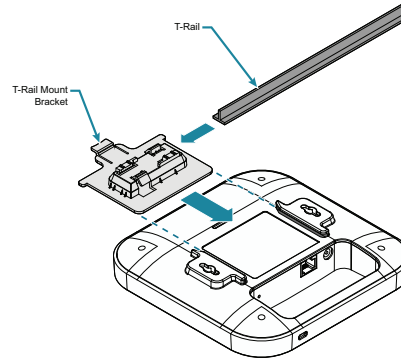

Figure 3. BSAP Ceiling Mount Brackets
Position the BSAP 6040 for maximum throughput and range between other APs and wireless client devices. The BSAP 6040 ships with plastic flush and recessed ceiling mounting brackets (T-rail kits) to mount the BSAP on the ceiling tile separators of standard and recessed dropped ceilings. Complete these instructions and refer to Figure 3 to mount the BSAP 6040 to a dropped ceiling:
1. Attach the T-Rail mounting bracket to the back of the BSAP by sliding the bracket into the recessed area behind the keyed slots until locked in place (refer to Figure 3 on page 3).